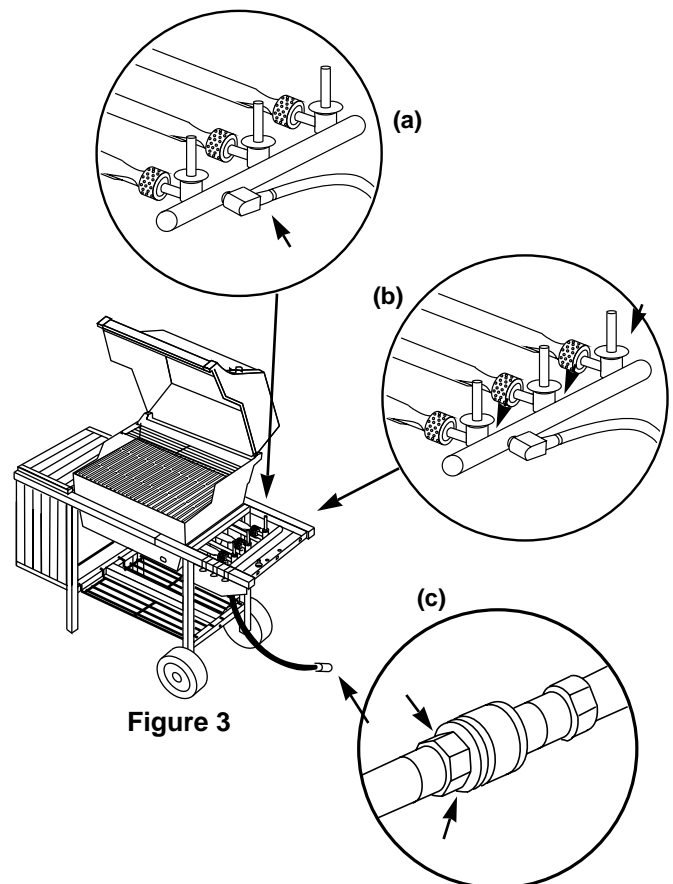

Figure 3
- a) Hose to manifold connection. Figure 3 (a).
⚠WARNING: If there is a leak at the hose to manifold connection, Figure 3 (a), retighten the hose fitting with a wrench and recheck for leaks with soap and water solution.
- b) Valves to manifold connections. Figure 3 (b).
- c) The hose to quick disconnect connection. Figure 3 (c).